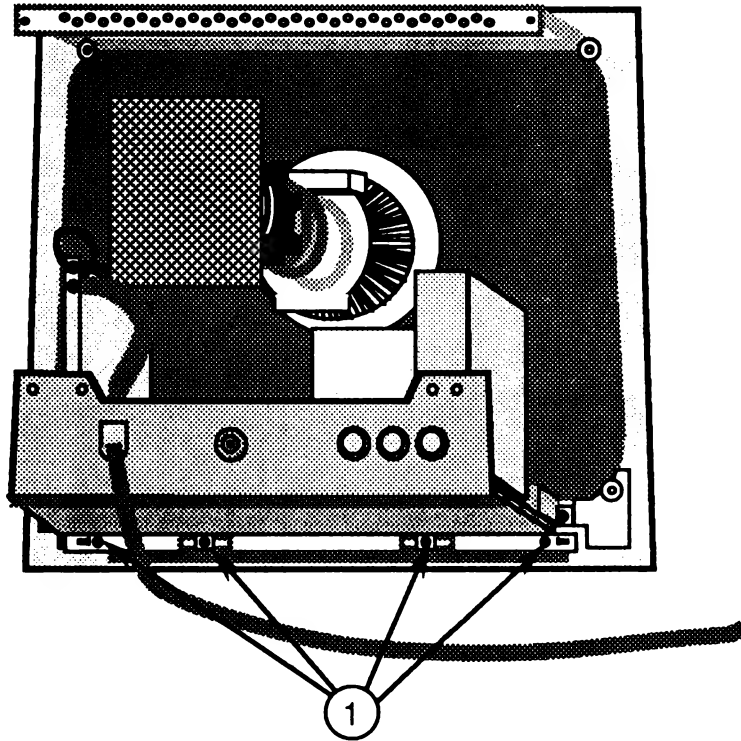

FIGURE 16
7. Remove the four screws (Figure 16, #1) located between the bottom of the metal frame and the plastic case.